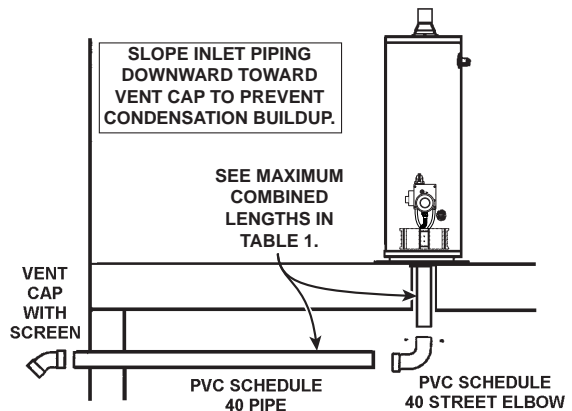

FIGURE 19.
- Attach a 3" (76 mm) or 4" (102 mm) PVC street elbow to the metal air intake vent using 3 sheet metal screws. Continue PVC piping to outside wall and terminate with vent cap and screen. See Figure 19 and Table 1.